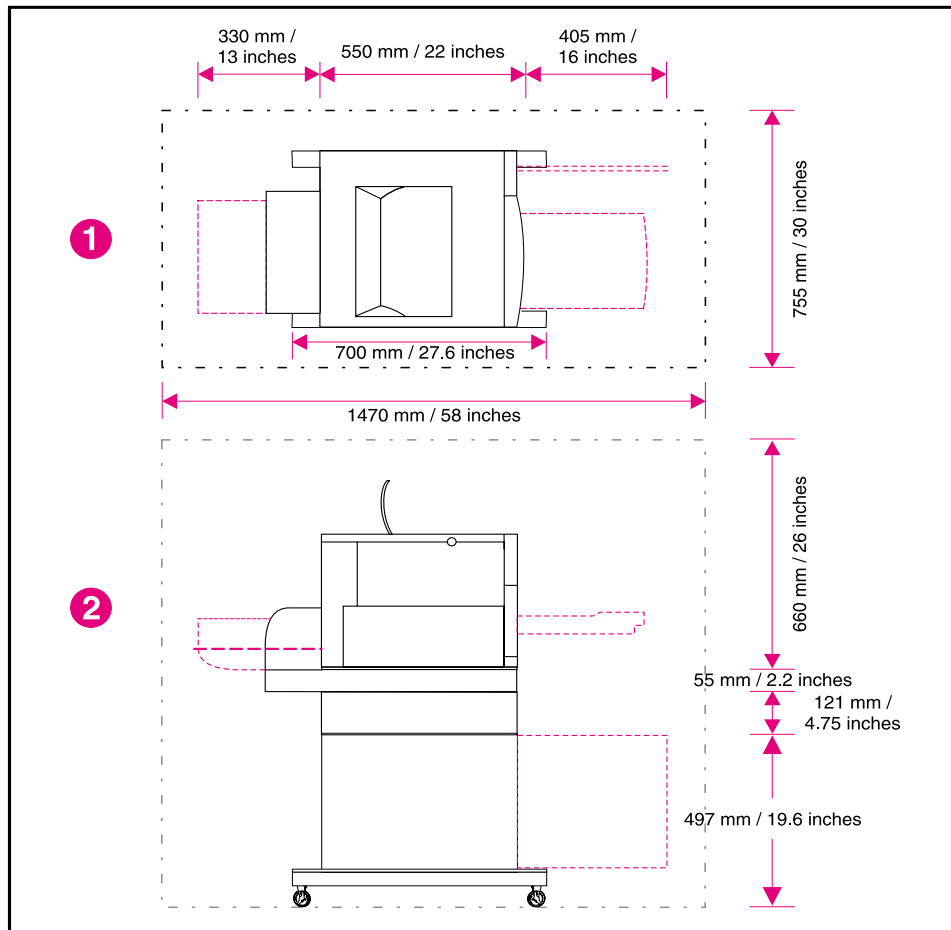

Figure 1-5 Space requirements
- away from walls or other objects. There must be enough space around the printer for proper access and ventilation. See Figure 1-5 on page 21.